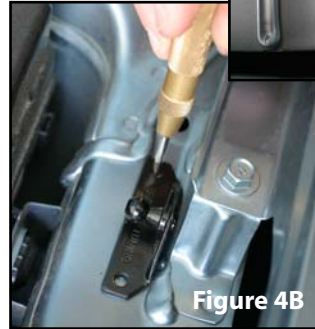

Figure 4B
C. Set bracket aside. Using a center punch and a hammer, tap the center of the mark you just made (**Figure 4B**).